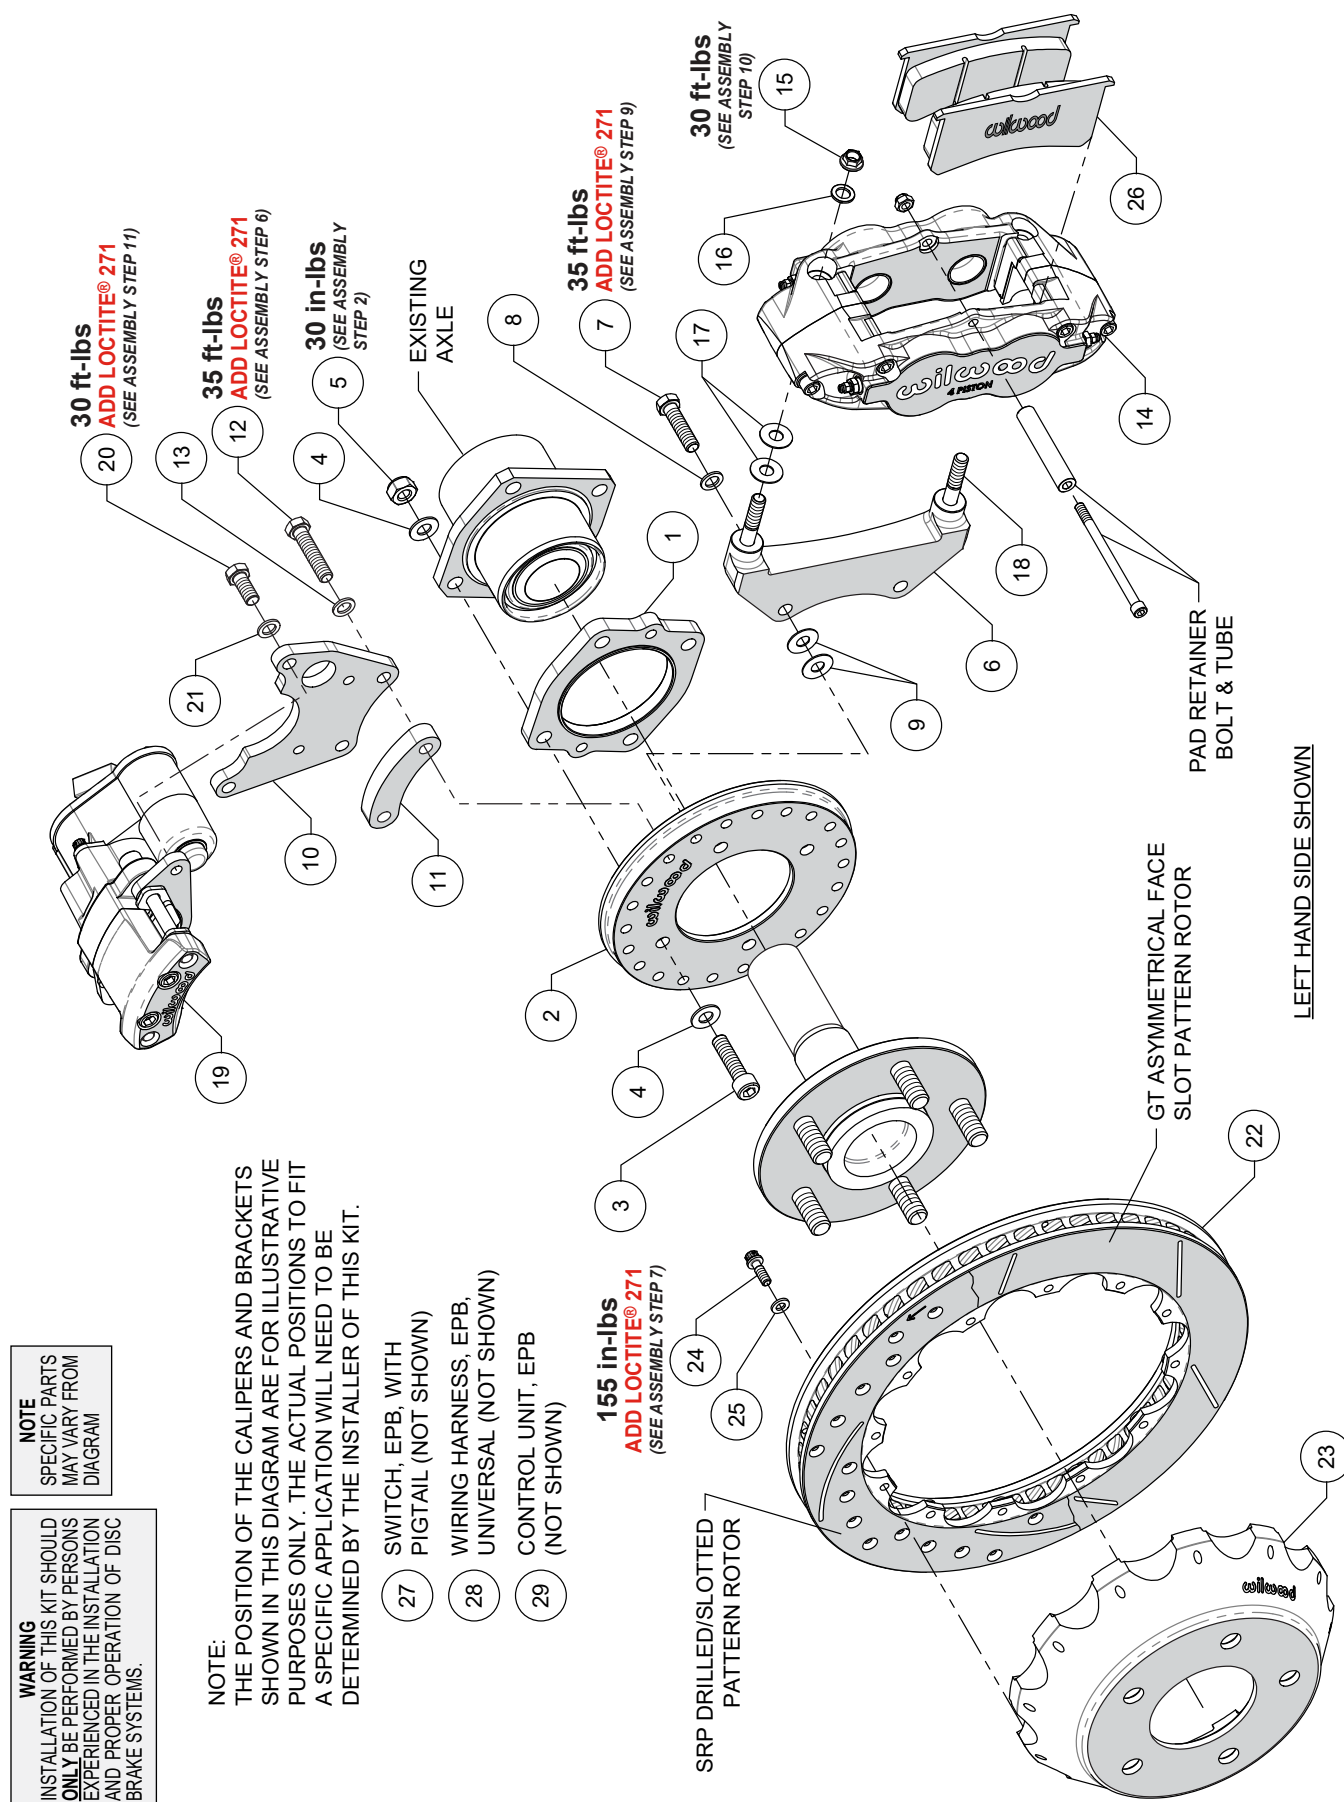

Figure 1. Typical Installation Configuration
NOTE: Numbers in parenthesis refer to the parts list and Figure 1 on the preceding pages.
STEP 1 Slide the backing plate spacer (1) onto the axle housing as shown in Figure 1 and Photo 1. **NOTE:** Ensure the spacer fits flush against the axle flange.
STEP 2 Orient the backing plate (2) as shown in Figure 1 and Photo 2 and mount it to the axle housing flange using bolts (3), washers (4), and lock nuts (5). Ensure the backing plate fits flush against the spacer (1). Torque lock nuts (5) to value shown in Figure 1. Reinstall the axle into the axle housing.
STEP 3 Start by determining the best location for the service caliper (14). This caliper is usually mounted in the 3:00 or 9:00 o'clock position, but may be rotated up or down approximately 45 degrees and still allow for proper bleeding, Photo 3. Orient the service caliper bracket (6) as shown in Figure 1 and Photo 4. Install bracket (6) to the backing plate (2) in the desired location using bolts (7), washers (8), and two .035" shims (9) placed between the bracket and backing plate, Figure 1. Temporarily tighten bolts. Next, mount the service caliper to the bracket (6) using lock nuts (15) and washers (16). Temporarily tighten bolts. Check that the caliper (including inlet fitting and hose) has sufficient clearance to all surrounding components through the full suspension travel. Relocate the caliper/bracket on the backing plate as needed to ensure proper clearance is achieved.
STEP 4 Determine the best location for the EPB caliper (19). **NOTE:** The EPB caliper motor extends farther inboard than the service caliper and therefore needs additional consideration when determining a mounting location with sufficient clearance. In the example application shown in Photo 5, the EPB caliper has sufficient inboard clearance to the leaf spring. However, if the EPB caliper were mounted closer to the 12:00 o'clock position, the inner body of the vehicle would hit the caliper during full compression of the suspension.
STEP 5 Orient the EPB caliper bracket (10) as shown in Figure 1. Install to the backing plate (2) in the desired location using bolts
(12), washers (13), and spacer (11), Figure 1 and Photos 6 and 7. Temporarily tighten bolts. **NOTE:** The EPB bracket is reversible. In one direction the bracket will position the EPB caliper closer to the service caliper, and vice versa if reversing the bracket. Next, mount the EPB caliper (19) to the bracket (10) using bolts (20) and washers (21). Temporarily tighten bolts. **NOTE:** EPB calipers are left and right handed, however they can be used on either side of the vehicle to best suit your specific application. Check that the EPB caliper (including wiring harness connector) has sufficient clearance to all surrounding components through the full suspension travel. Relocate the EPB caliper/bracket on the backing plate (2) as needed to ensure proper clearance is achieved.
STEP 6 Once the caliper positions have been determined, remove both the service (14) and EPB (19) calipers, leaving both brackets in place on the backing plate. Remove the EPB bracket bolts (12) one at a time, apply red *Loctite*® 271 to the threads, and torque to value shown in Figure 1.